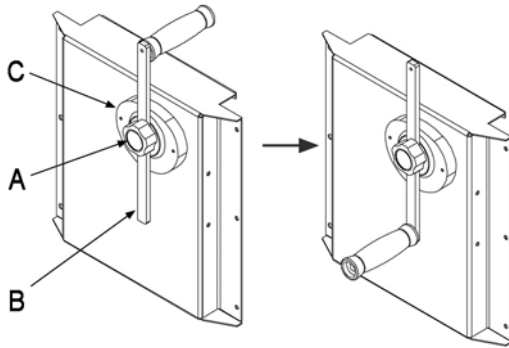

Figure 2
2. Locate the winch handle assembly that has been reversed for shipping purposes. Loosen the nut (A, Figure 2) and pull handle (B, Figure 2) from the base (C, Figure 2). Reverse the handle and install into base as shown. Tighten nut (A, Figure 2).